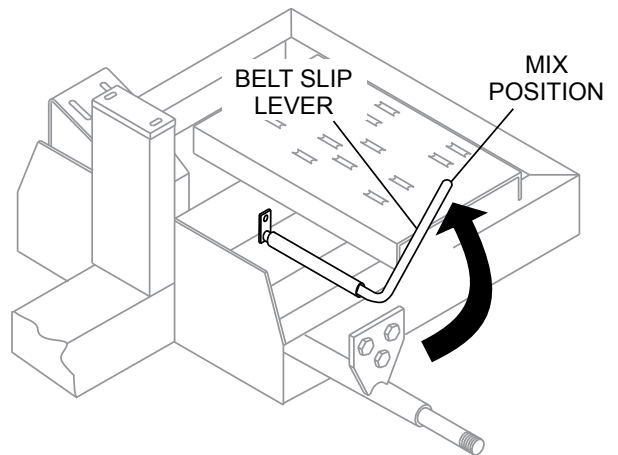

Figure 18. Belt Slip Lever (Mix Position)
- Place the belt slip lever (Figure 18) in the mix position. This will tilt the engine placing tension on the V-belts enabling the shaft to rotate.